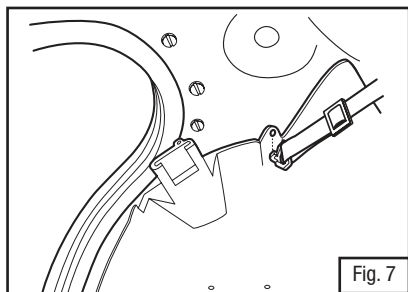

Fig. 7
2. Fasten hooks on the ends of the chin strap through the small holes on each side of the inner shell. Make sure the chin strap is not twisted (Fig. 7).